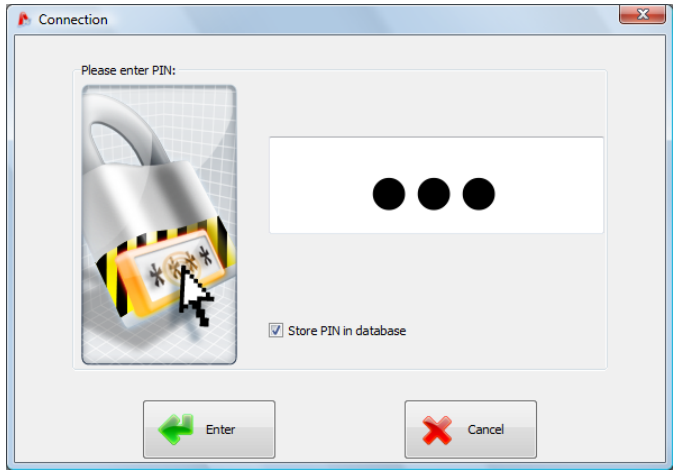

Fig. 21. PIN code verification.
- *Wireless analyzer detection is possible only after previous connection of the analyzer by means of the USB link, entering the correct PIN code and selecting the "Remember PIN" option (see Fig. 21). Then, the analyzer is added to the analyzer database. During the wireless search, only analyzers from the database can be detected.*
If automatic log-in is unsuccessful, the window shown in Fig. 21 is displayed again.